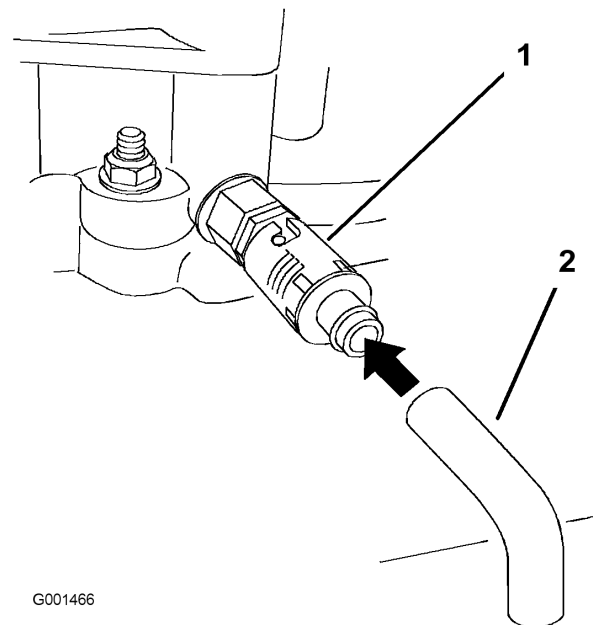

Figure 28
6. Place a pan below the drain hose. Rotate oil drain valve to allow oil to drain (Figure 28).
8. Remove the drain hose (Figure 28).